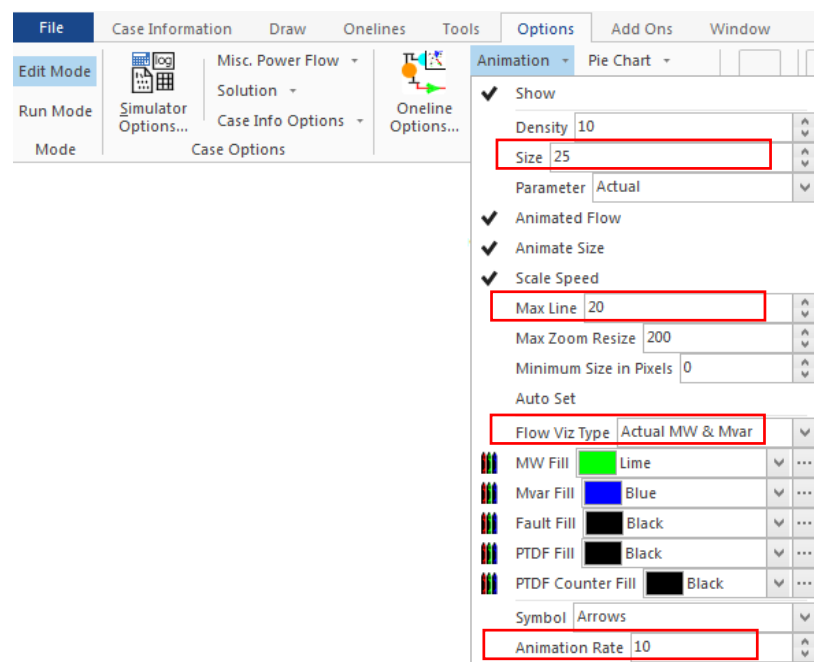

Figure 15- Animation Settings Window
17) Before running our simulation, it is necessary to define the visualization settings of our system. To do this, click on the *Options* tab and then click on *Animation*. The settings that have been changed are highlighted with a red box. Please refer to Figure 15 and make sure your settings match those in the figure.